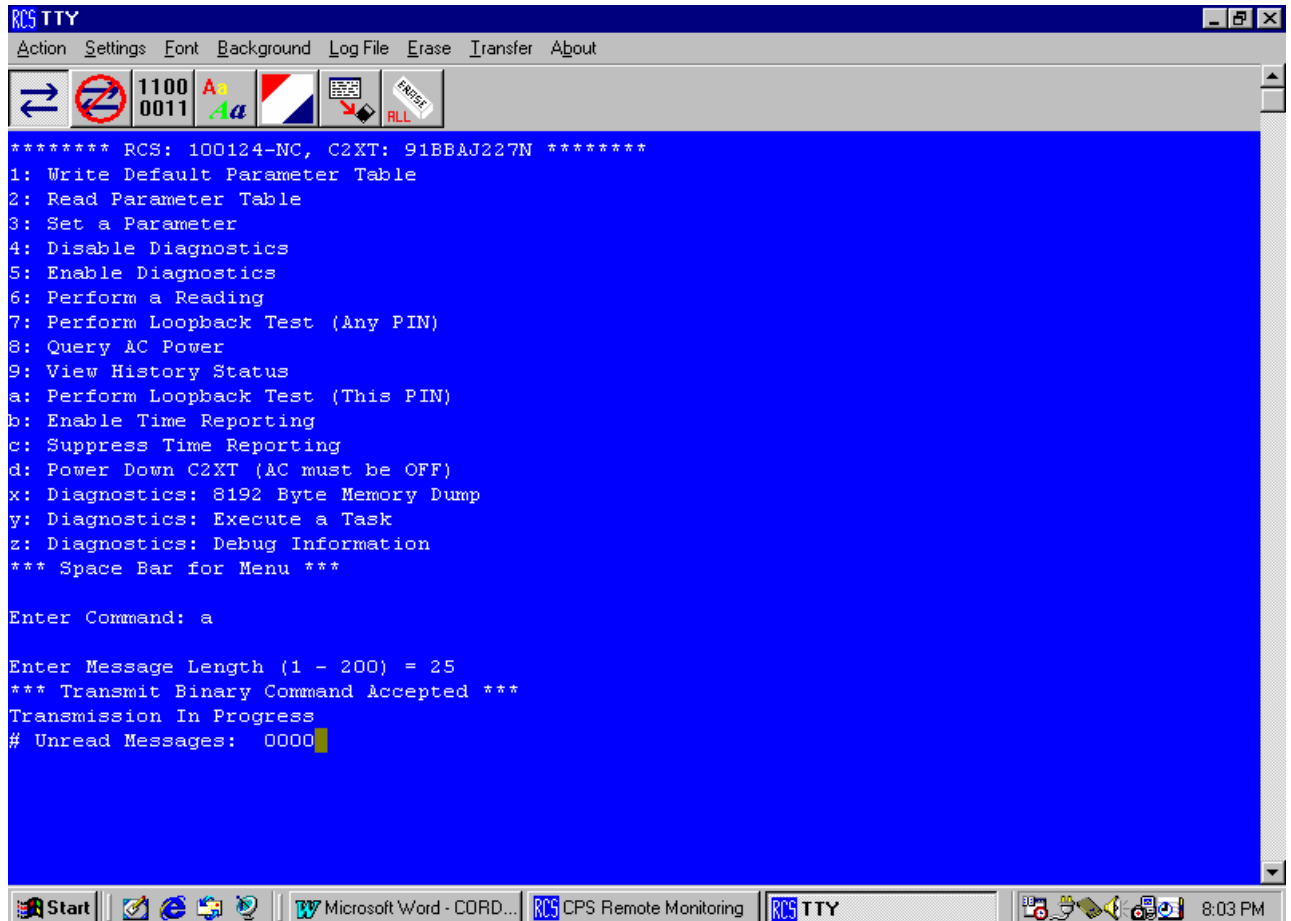

Figure 3.3 – CORD-Pager TTY Program – Menu and Loop Back command
- Step 9: Type the letter a, and press the return key. The screen will ask for a message length, enter 25, and press enter. The screen will appear as in figure 3.3 (see next page)